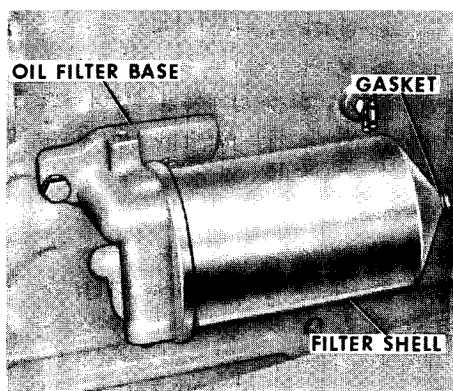

Figure 6
1. Loosen the hex head bolt on the filter shell until the shell and element can be lifted off the base together, Figure 6.
**NOTE** If leakage is observed between the shell and bolt head, a new gasket must be installed, Figure 6.